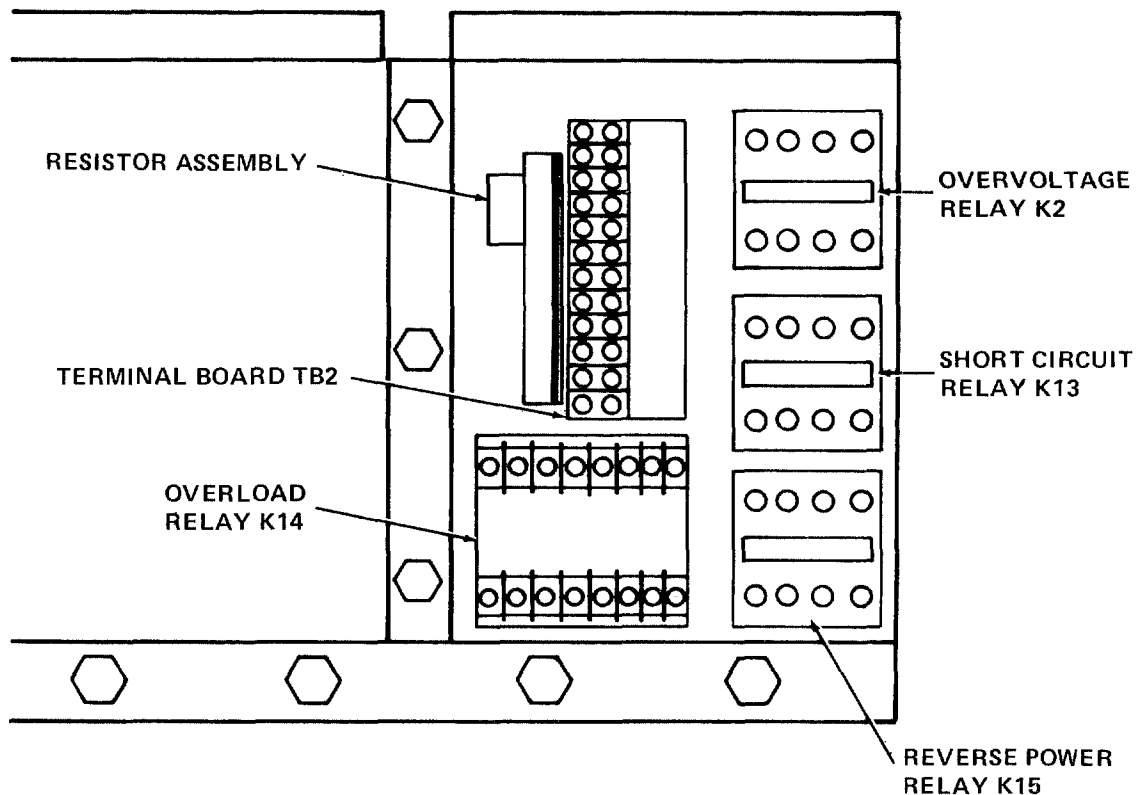

Figure 6-1. Tactical Relay Box A29, Cover Removed
a. Remove cover from tactical relay box A29 to gain access to test points (refer to figure 6-1).
6-3. REMOVAL. For instructions on removing tactical relay box A29, refer to figure 6-1.
6-6. INSTALLATION. To install tactical relay box A29, proceed as follows (refer to figure 6-1):